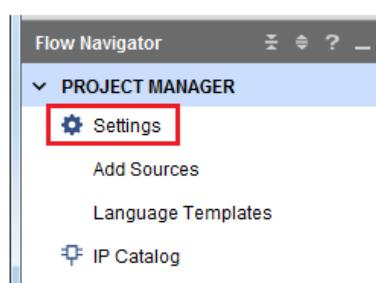

Figure 11.12: Project Settings command
13. In the **Project Manager**, click the **Settings** command, see Figure 11.12.